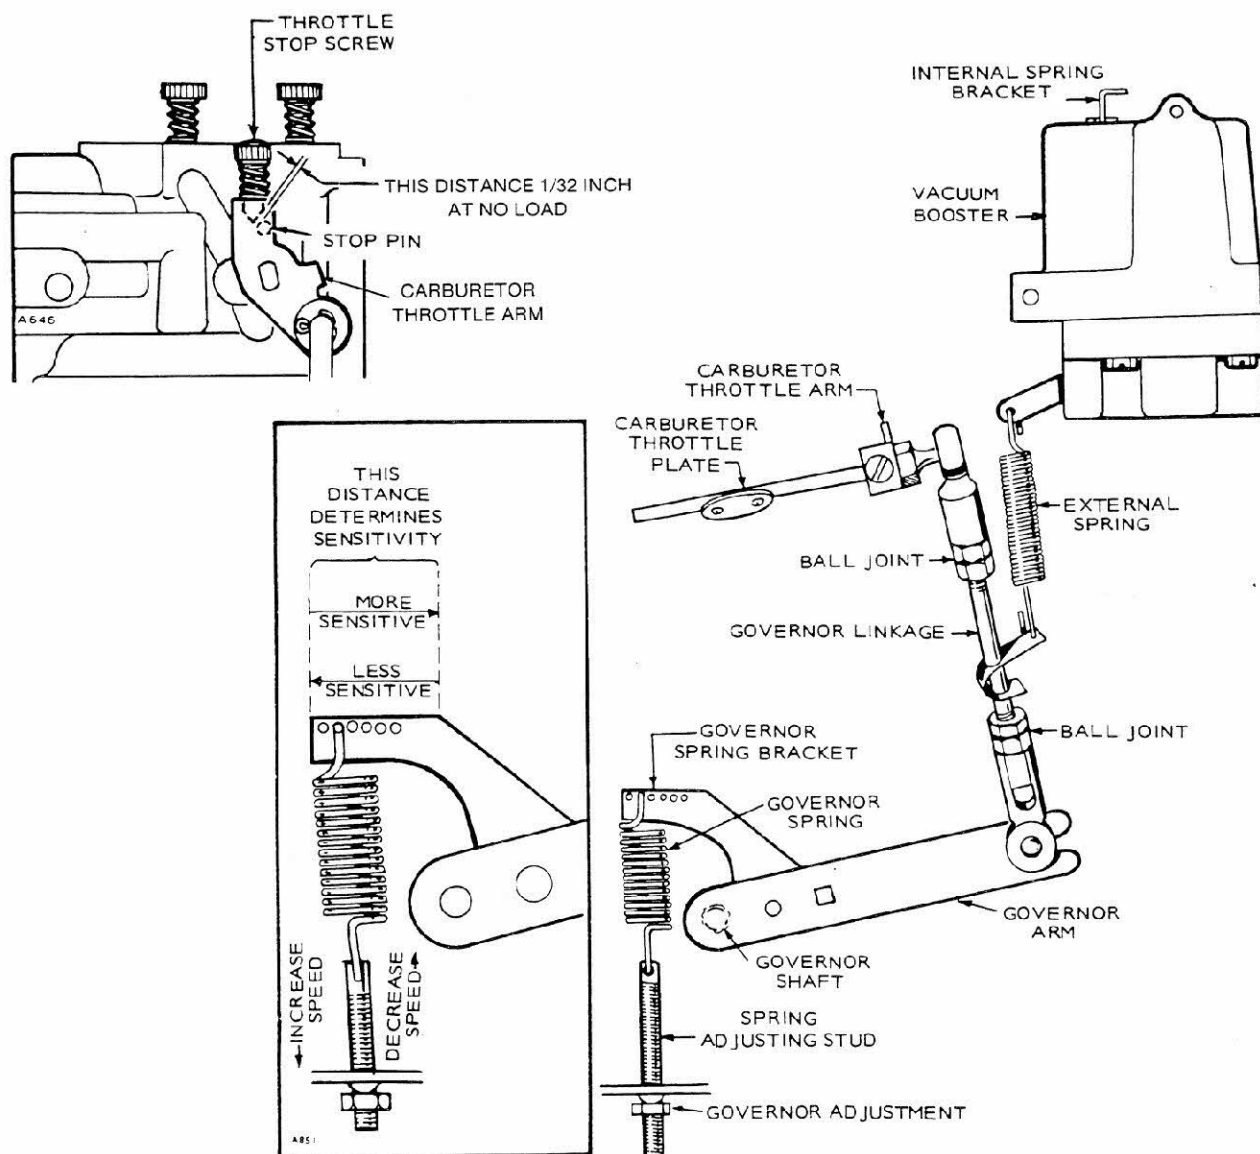

FIGURE 13. GOVERNOR AND GOVERNOR ADJUSTMENTS
Governor and vacuum booster control engine speed (Figure 13). Rated speed and voltage appear on nameplate. On a 4 pole generator engine speed divided by 30 equals frequency.
The engine starts at wide open throttle. Length of linkage connecting governor arm to throttle arm is adjusted by rotating the ball joint. Adjust length so that with engine stopped and with tension on governor spring, the stop screw on carburetor throttle lever is 1/32 inch from the stop pin. This setting allows immediate control by the governor after starting, and synchronizes travel of governor arm and throttle shaft. See Figure 13.
2. Remove vacuum booster external spring from bracket slide on the governor link (Figure 13).
3. Increase sensitivity (closer regulation) by shifting adjusting clip toward governor shaft (Figure 13). Move clip away from governor shaft to decrease sensitivity.